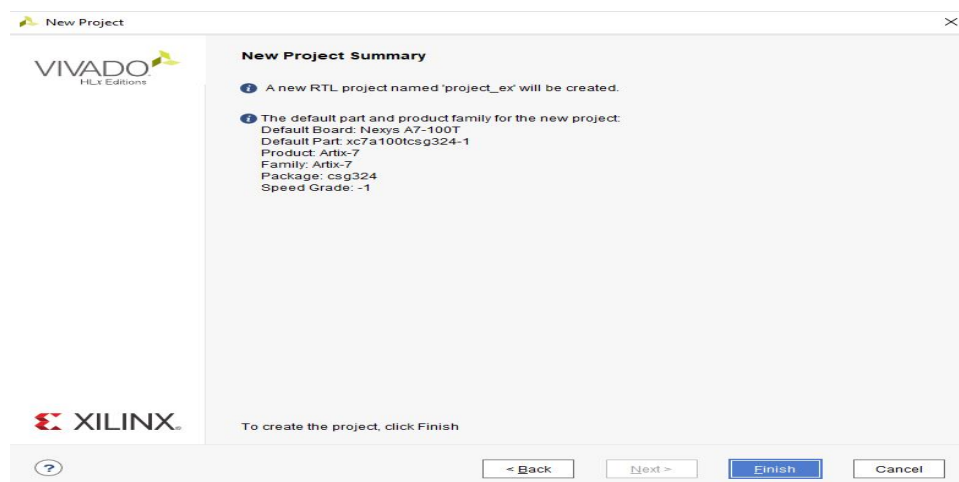

FIGURE 1.6: Project Summary
5. Click Finish in the *New Project Summary* dialog. (Figure 1.6)